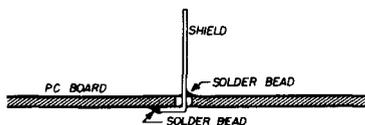

fig. 14. Installation of shields on the printed-circuit board.
6. Add the shields to the rf stage; 0.005 to 0.010-inch copper is suggested. If significantly thicker material is used, soldering to the PC board may be a problem (see fig. 14).
ends of the inductors; a small bead of solder is run along the bottom of the shield as shown in fig. 14.